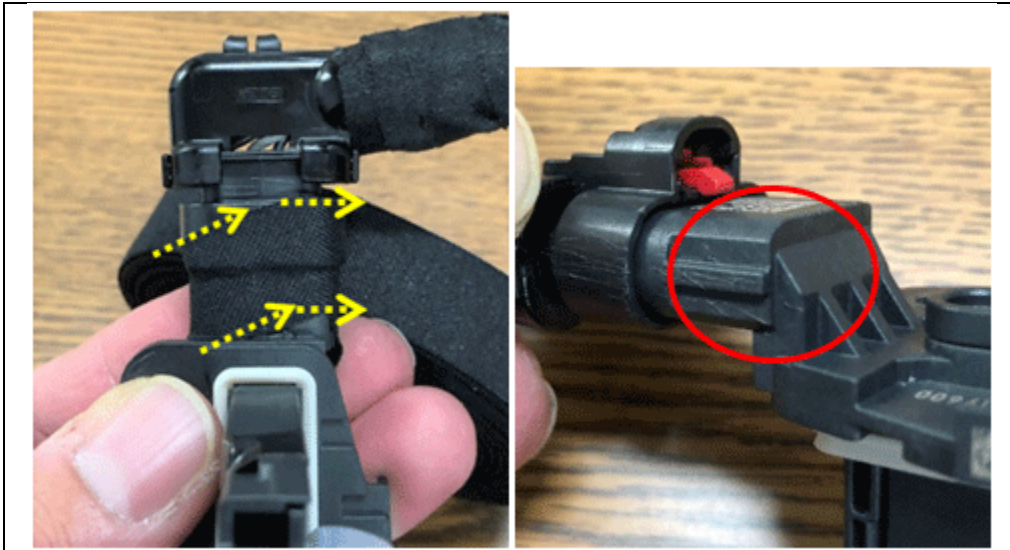

Figure 4
7. Start at the sensor edge and wrap three times. Ensure that the tape is securely attached to all surfaces, including the recesses shown circled in the photo. See Figure 4.